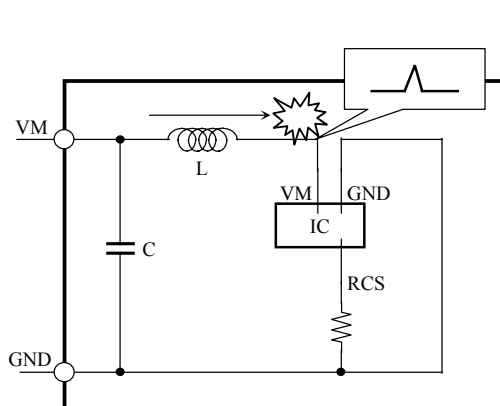

Figure 3. Non-recommended pattern
A high current flows into the line between the VM1(Pin 8) and VM2(Pin 22). Therefore, noise is generated with ease when switching at the inductance (L) of the line, which may result in the malfunctioning or destruction of the IC (Figure 3).